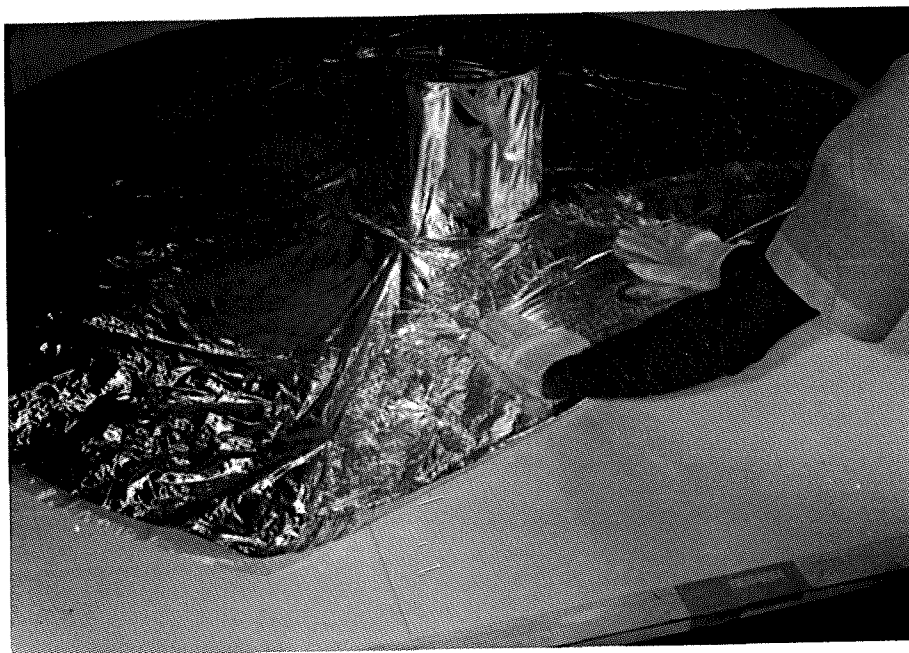

Fig. 2
STEP 2. At a circumferential position corresponding to one of the six skirt fastener buttons, make first skirt fold radially as shown in Figure 2 until edge is just touching upright cylinder. Edge of folded portion should be approximately tangent to two adjacent skirt buttons. Squeeze out excess air from fold as shown.